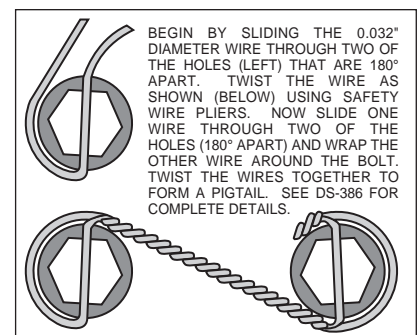

Figure 3. Safety Wire Diagram
- The caliper mount bracket assembly (1) should be installed first with clean, dry threads on the mounting bolts. Install the bracket from the rear side of the spindle by sliding the upper mounting bolt (4) through flat washer (5), and the upright into the upper bolt hole on the bracket. Attach the lower portion of the bracket by sliding bolt (6) through flat washer (7) and into the lower hole on the backside of the spindle. The bracket must tighten squarely against the inboard side of the spindle face plate/upright. Inspect for interference from casting irregularities, machining ridges, burrs, etc. If everything fits correctly, then remove the mounting bolts (4 and 6), coat threads with red *Loctite*® 271 and reinstall. Torque bolt (4) to 65 ft-lbs., and bolt (6) to 42 ft-lbs.
- Install wheel studs (8) into the hub (9). Torque to 77 ft-lb. **NOTE:** *There are two lug patterns of five holes each in the hub (5 x 4.50 and 5 x 4.75).* Make sure of the correct hole pattern for the wheel application before installing the studs into the hub.
- Pack the large inner bearing cone (10) with high temperature disc brake bearing grease (available from your local auto parts store) and install into the backside of the hub (9).
- Install the grease seal (11) into the backside of the hub (9).
- Pack the small outer bearing cone (17) with high temperature disc brake bearing grease and install into front side of the hub (9). Slide the hub assembly (9, 10, 11 and 17) onto the spindle. Secure using spindle washer (18), stock adjusting nut, and nut locking device. Adjust wheel bearing pre-load per Original Equipment Manufacturer (OEM) specifications.
- Install the O-ring (20) and the dust cap (19) into the hub (5). **NOTE:** *O-ring (20) friction will not allow cap (19) to unscrew on its own.*
- With the larger I.D. side of the rotor (12) facing away from the hat (13), bolt rotor (12) to hat (13) through the backside of the rotor using washers (14) and bolts (15). Using an alternating sequence, apply red *Loctite*® 271 to the threads and torque bolts to 155 **in-lb**. For an added measure of security, the bolts may be safety wired using standard 0.032 inch diameter stainless steel safety wire as shown in Figure 3. Please refer to Wilwood's data sheet DS-386 (available at www.wilwood.com/Pdf/DataSheets/ds386.pdf) for complete safety wire installation instructions..
- Slide the rotor/hat assembly over the studs (8) in the hub (9) taking care to align the small countersunk holes in the hat (13) with the small threaded holes in the hub (9). Install three flat head socket head screws (16) through the small holes in the hat (13) and torque to 85 **in-lb**. Check to be sure the hat seats squarely against the spindle.